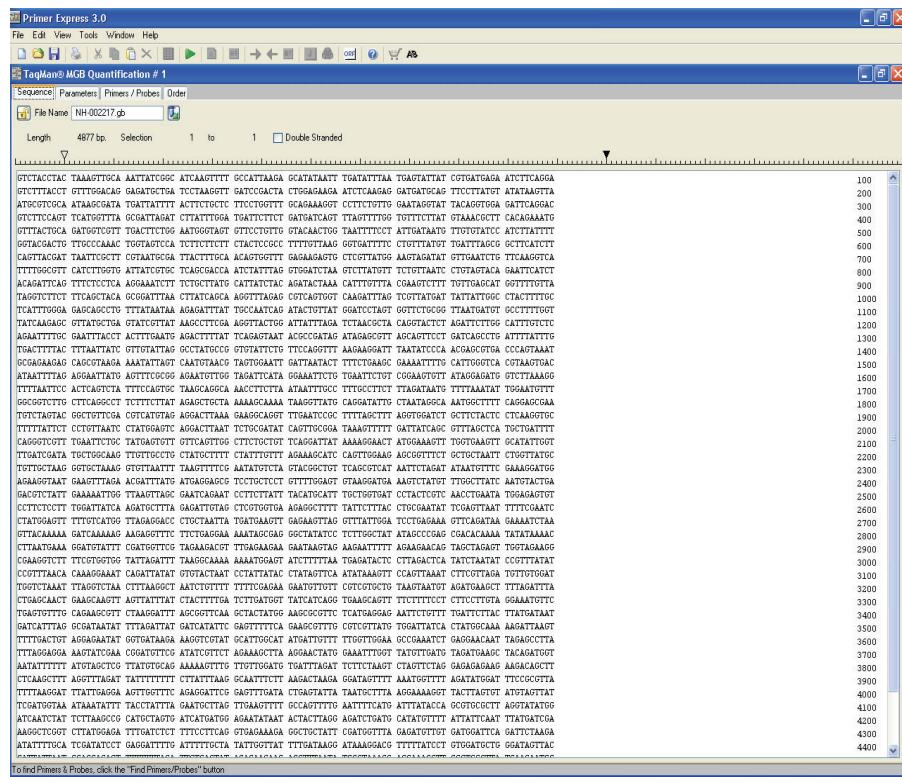

Figure 5. Sequence tab
3. Click **Add**. Primer Express software loads the nucleotide sequence from the file and displays the sense strand in the Sequence tab (see “Figure 5. Sequence tab” on page 22). The sequence serves as the starting point for primer design.